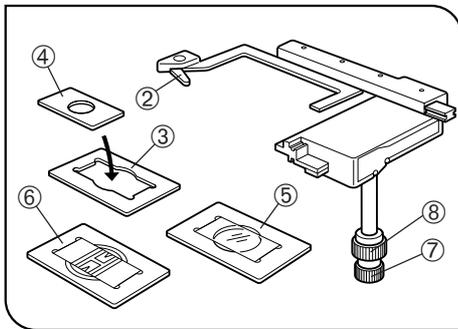

Fig. 7
1. When using a 96-well or 24-well micro-titer plate, extend the specimen holder ② to directly hold the micro-titer plate. (Fig. 7)
- Terasaki holder ③ (AB4488): For Terasaki plate, 35 mm petri dish holder ④ or 65 mm petri dish.
- Slide glass holder ⑤ (AB4489): For slide glass, 54 mm petri dish.
- Blood cell test plate holder IX2-BCTP ⑥ (optional): For a blood cell test plate holder or other calculating chamber for bacteria and eosinophil with mounting section dimensions corresponding to $H 77^{+0.3}_0 \times V 35^{+0.3}_0 \times D 2 \text{ mm}$, or for a 60mm petri dish.
3. The specimen can be moved to the desired position by turning the X-axis knob ⑦ and Y-axis knob ⑧ (Stroke: 120 mm in X-axis direction, 78 mm in Y-axis direction).